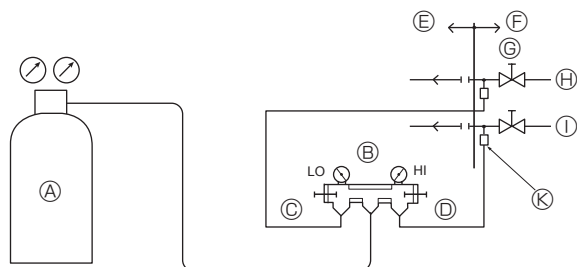

Fig. 5-10
① **Airtight test (Fig. 5-10)**